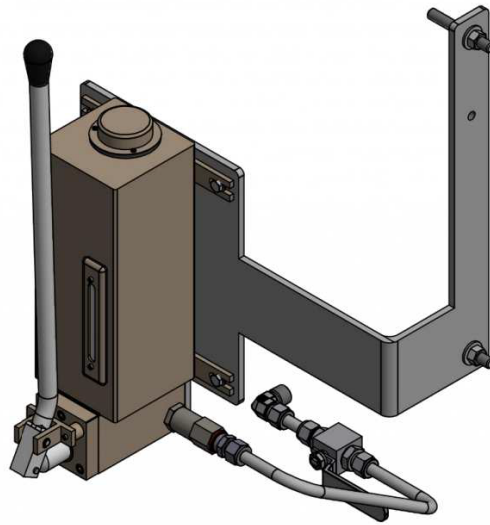

Figure 13: Handpump mounting
- The handpump mounting bracket (item 261) shall be mounted between the reservoir and stand / mounting surface.
- The handpump outlet shall be connected to the unused connection A/A1 using items 126, 127, 268, 389, 389.1, 432 as shown in Figure 13.